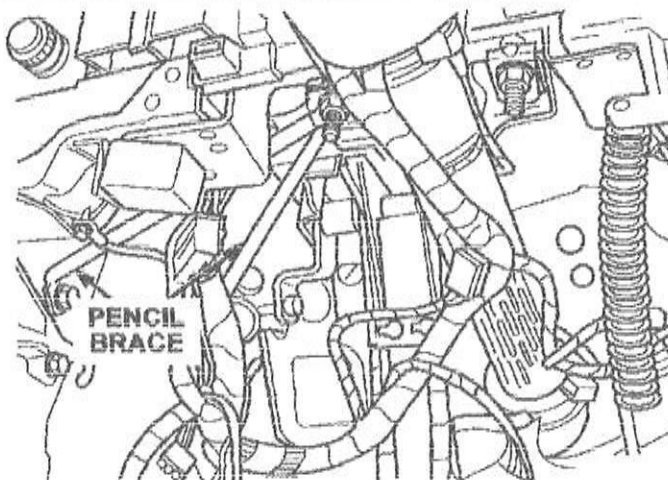

Figure 21
11. Remove the short pencil brace (Figure 21).